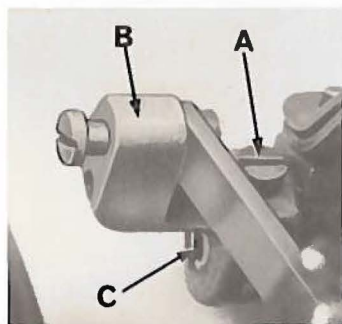

Fig. 9
The thread tension release is set correctly when it begins to function as the presser foot is raised approximately  $\frac{1}{8}$  inch above the throatplate and is entirely released when the presser foot has reached its highest position. If adjustment is necessary, loosen screw (A, Fig. 9) in lifter lever (B). Facing the tension release shaft (C) from the pulley end of the machine, insert screwdriver into slot in shaft and rotate counterclockwise to advance or clockwise to retard the release action, as required. Retighten screw (A).